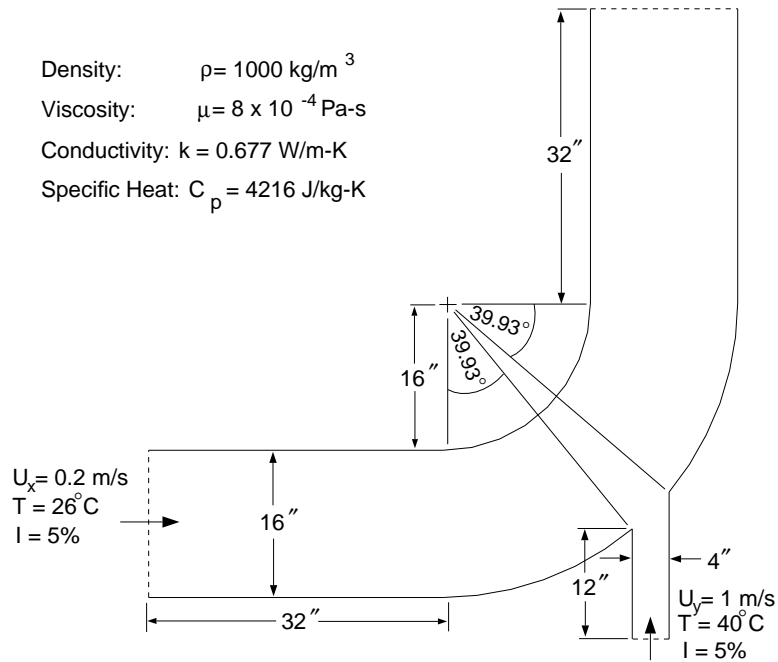

Figure 1.1: Problem Specification
**Problem Description:** The problem to be considered is shown schematically in Figure 1.1. A cold fluid at 26°C enters through the large pipe and mixes with a warmer fluid at 40°C in the elbow. The pipe dimensions are in inches, and the fluid properties and boundary conditions are given in SI units. The Reynolds number at the main inlet is  $2.03 \times 10^5$ , so that a turbulent model will be necessary.
*Confirm that the maximum  $x$  and  $y$  values are 64 inches (see Figure 1.1).*